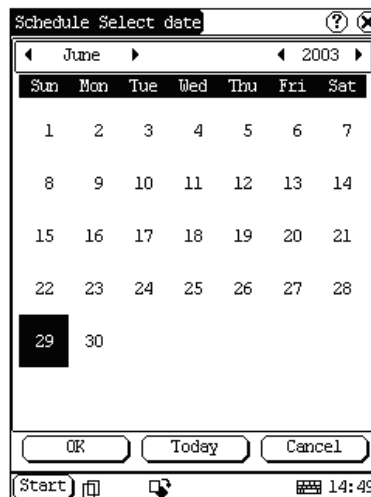

Figure 4-32
- 3) Click the [▶] icon to the right of the month or year to select the next month or year. (See Figure 4-32)